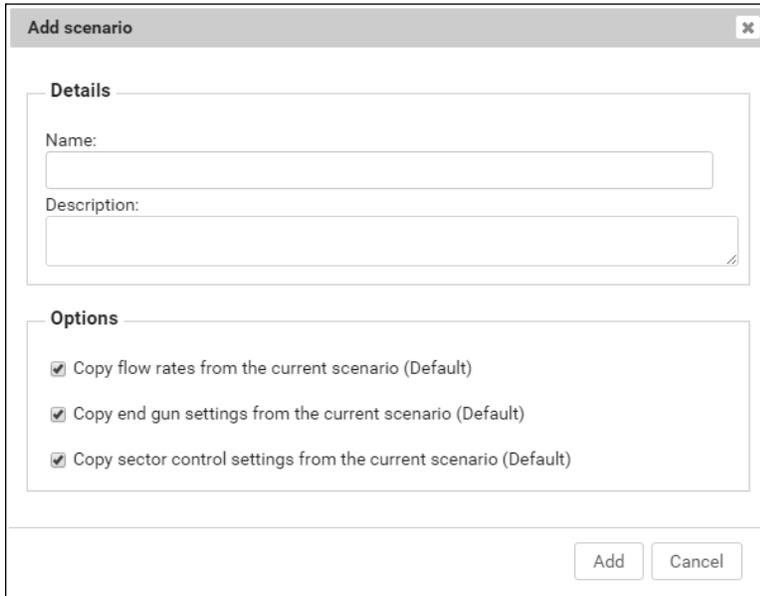

Figure 14-1
3. Enter a Name, Description and select the desired Options. When finished click **Add**. Refer to Figure 14-1